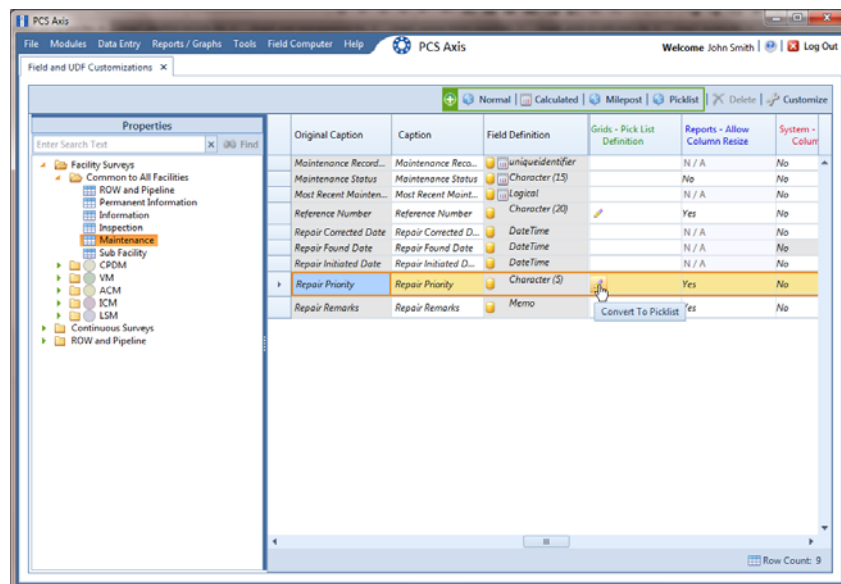

Figure 2-34. Field and UDF Customizations
For example, double-click **Facility Surveys > Common to All Facilities > Maintenance** to display a grid with fields and property settings related to all *Maintenance* data entry grids (Figure 2-34).
- 5 Convert the selected data entry field to a picklist field. Click the edit icon  in the *Grids-Picklist Definition* field for the data entry field selected earlier, such as *Repair Priority* (Figure 2-34, page 67).